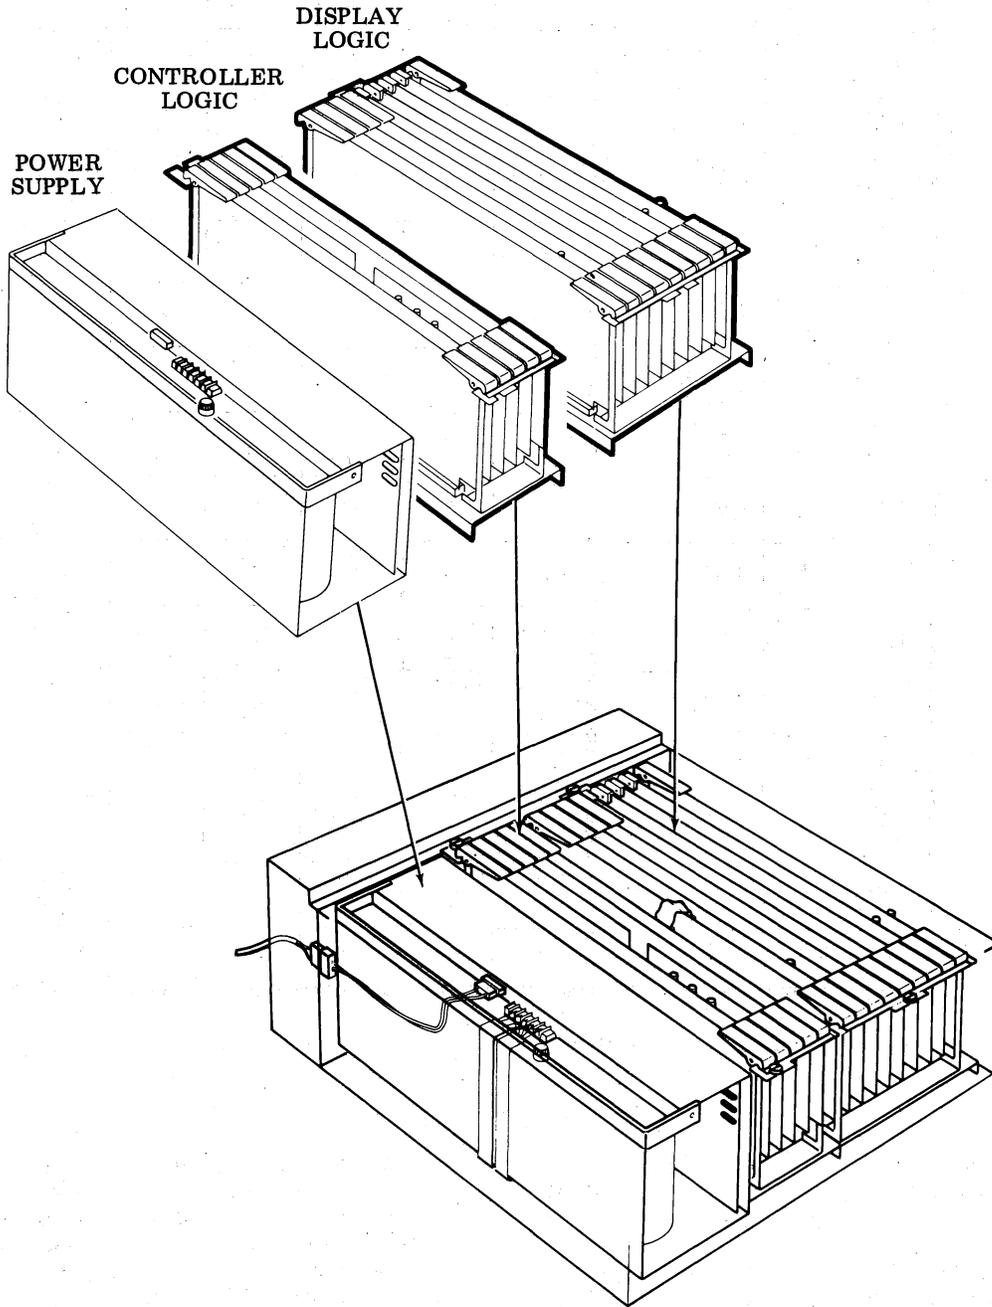

Figure 7 - Logic Circuits and Power Supply of Electronics Package
mounted in the electronics package (Figure 7). The basic display logic package provides for up to 1920 characters (24 lines of 80 characters). Additional circuit cards can be added to the display logic package to expand the storage capability to 3840 characters (48 lines) or 5760 characters (72 lines).
2.45 The controller consists of a set of circuit cards which control the terminal devices and provide an interface to the data set. These cards are part of a modular electronics package which also includes the display logic and power supply (Figure 7). The complete electronics package may be in a cabinet under or adjacent to the display unit, or it may be mounted in the pedestal, depending on the station configuration. Certain cards are switch-programmable to permit selection of field options.
2.47 The power supply is a modular unit mounted in the electronics package (see Figures 7 and 18). It operates from the 117 v 60 Hz ac line and produces dc outputs of +5 v, +12 v, and -12 v to operate the logic circuits.